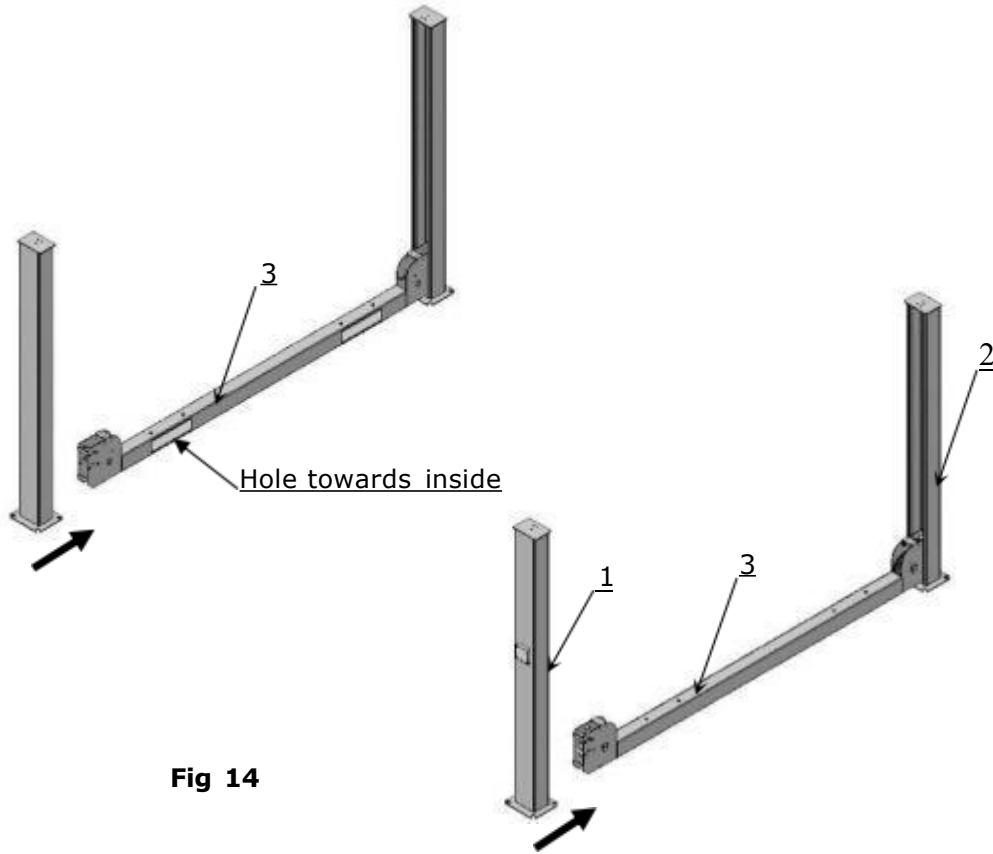

Fig 14
D. Install cross beams (See Fig. 14).